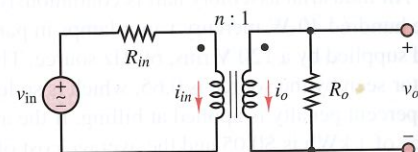

Figure P7.46
7.46 For the ideal transformer shown in Figure P7.46, assume $v_{\text{in}}(t) = 240 \cos(377t)$ V, $R_{\text{in}} = 50 \Omega$, $R_o = 20 \Omega$, and the step-down turns ratio is set by $n = 3$. Determine: